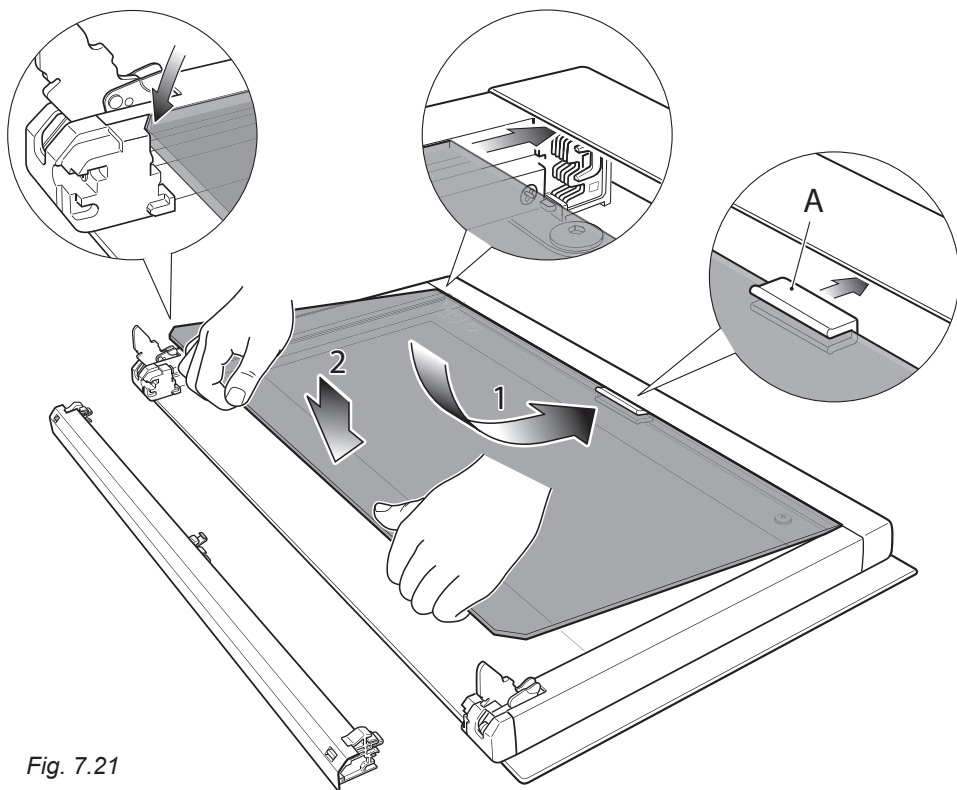

Fig. 7.21
- Check that the gasket "A" is in place (fig. 7.21). If not, correctly place the gasket in the top edge of the inner glass (in the centre).
1. Insert the inner glass pane in the uppermost pair of grooves and push it slightly (arrow 1 in figure 7.21).
2. Gently lower into place (arrow 2 in figure 7.21).